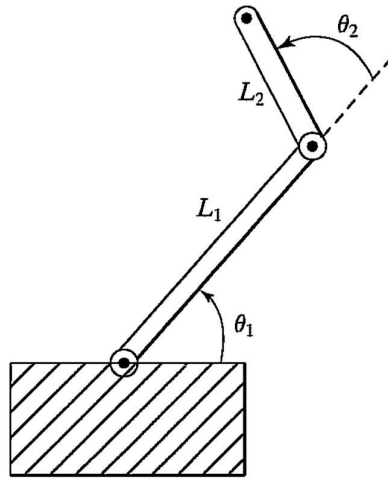

Fig. Q.4 (a)
- Q.4(a) Fig. Q.4 (a) shows a two-link planar arm with rotary joints. For this arm, the second link is half as long as the first—that is,  $l_1 = 2l_2$ . The joint range limits in degrees are  $0^\circ \leq \theta_1 \leq 180^\circ$  and  $-90^\circ \leq \theta_2 \leq 180^\circ$ . Draw the approximate reachable workspace (an area) of the tip of link 2. [5] 4 Draw